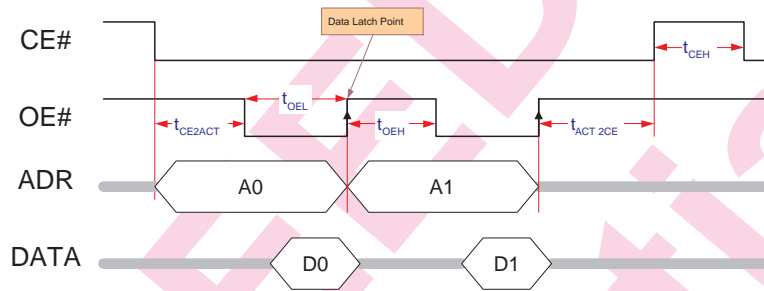

Figure 42: NOR Flash Read Timing
- Figure 42: NOR type flash normal read timing